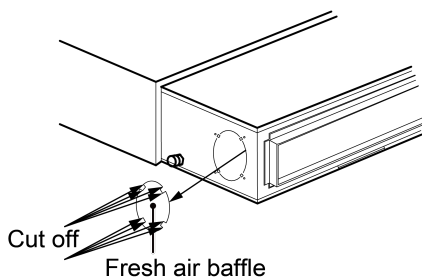

Fig 4.24
- (1) If a fresh air duct is needed, remove the fresh air baffle as shown in Fig 4.24. If a fresh air duct is not needed, block the gap on the baffle with sponge.